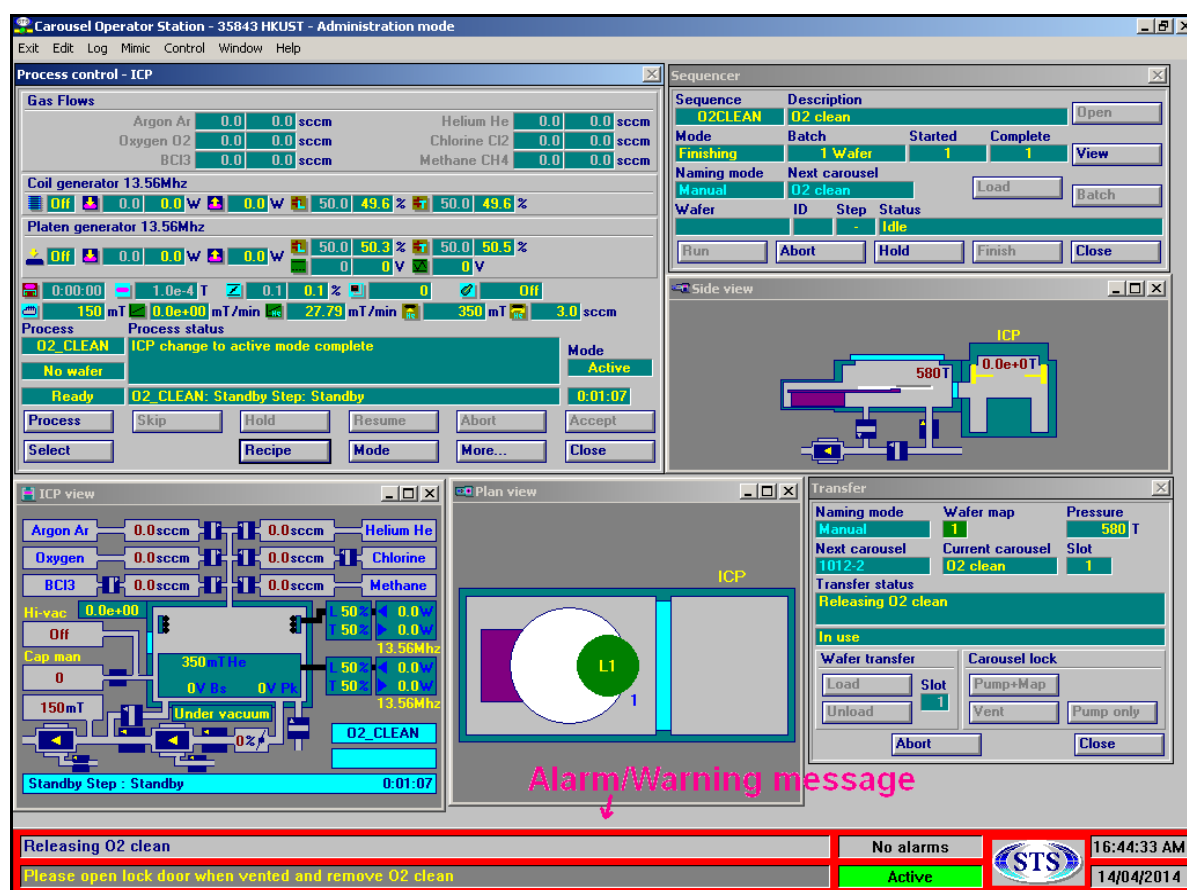

Fig.3 Alarm/Warning message
- If the equipment fails while being used, never try to fix the problem by your own, please write down the alarm information and report to NFF etching module staffs. Alarm/warning message will be displayed at the bottom of the screen (Fig. 3). DO NOT attempt to resume the equipment on before the alarm/warning message is verified.
Accept: When there is a fault, alarm or warning, a message will be displayed at the bottom of the display (Fig.3), and this key is use to acknowledge and clear a fault report dialog once the fault, alarm or warning is cleared.